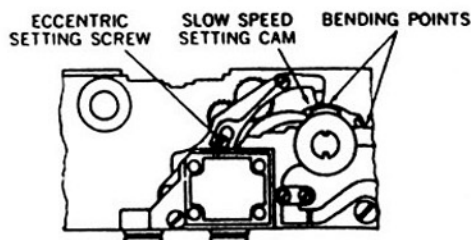

Figure 4-11. Slow Shutter Speed Adjustments.
- b. *Slow Shutter Speeds (fig. 4-11, 4-12).*
(1) *Adjusting escapement for 1/8-second (fig. 4-11).*
(2) *Adjusting slow speed setting cam (fig. 4-11).*